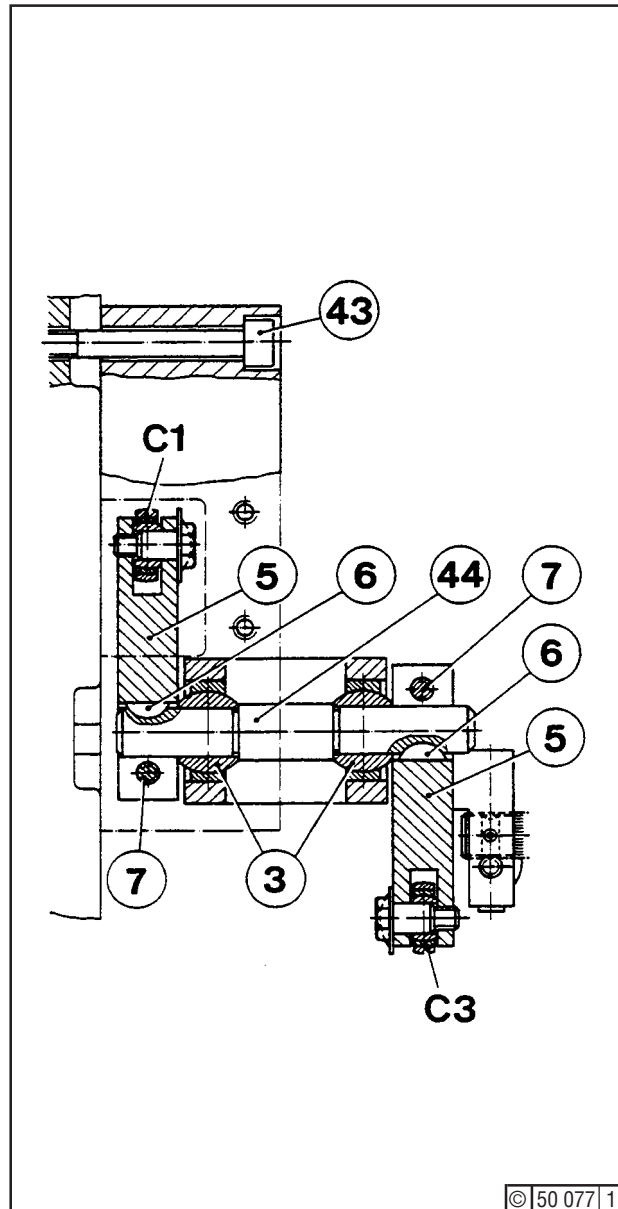

Fig. 6 Link bearings of bearing block
Release link rods C1 and C3 - Fig. 6 - at the levers (5), as described under "Renewing Link Heads". Unlock hex. bolts (7) and remove.